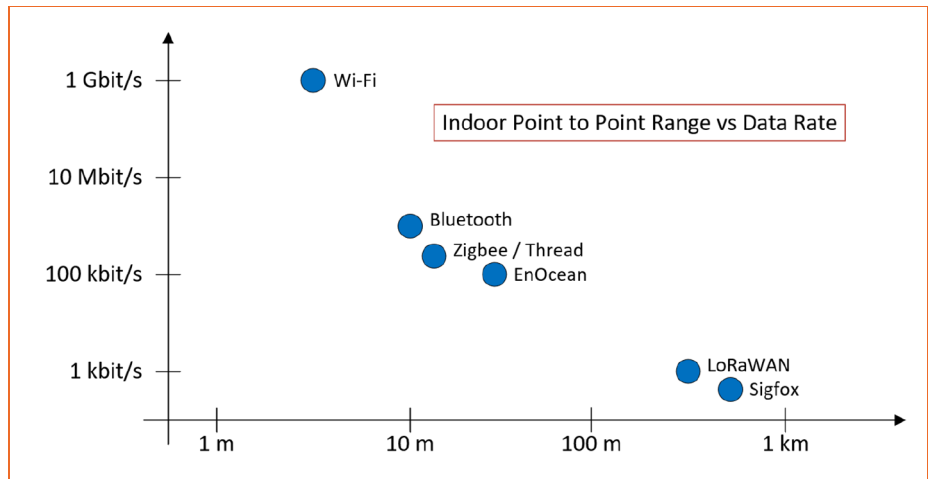

Figure 3: Radio range versus data rate trade-off illustrated based on common protocols.
**Figure 3** shows the relation between data rate and typical indoor point-to-point communication distance based on some example radio protocols.